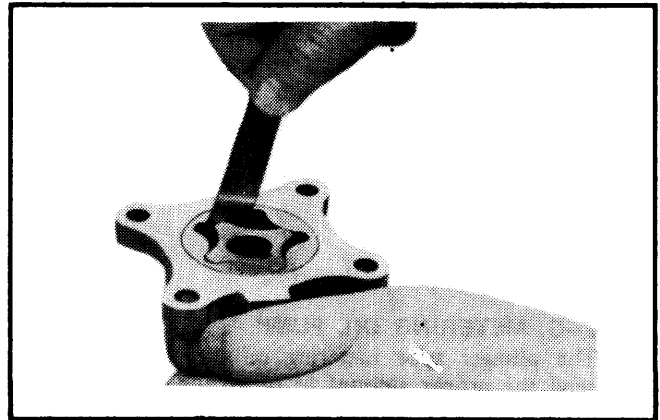

Fig. 28 Measuring Rotor Lobe Clearance
3) Insert a feeler gauge between lobes of inner and outer rotors and check clearance (Fig. 28). If beyond .006" (.15 mm), replace both rotors.